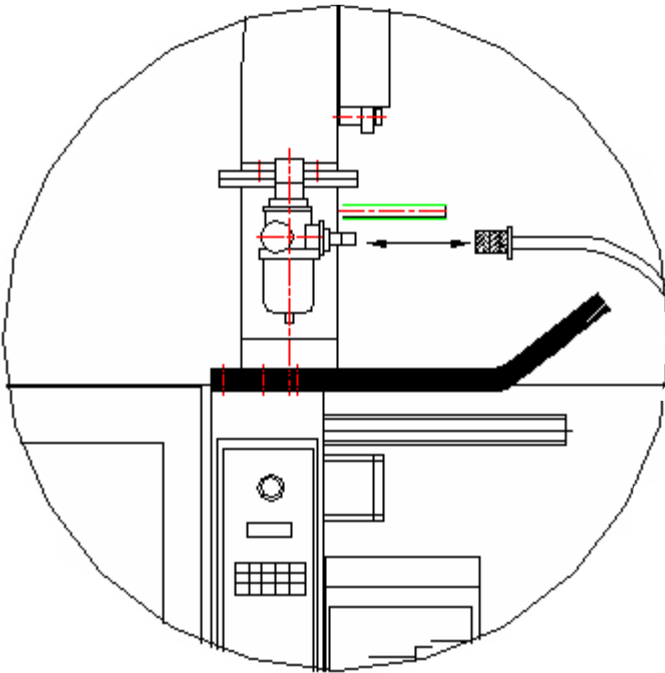

Figure 2-12-1
3. Connect the air line to the picker. (Figure 2-12-1)